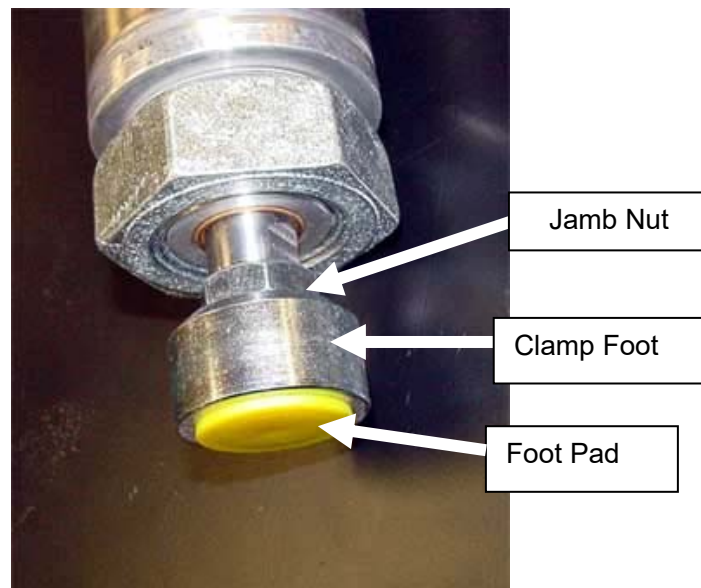

Fig 2
2. With the shaft fully extended, hold the shaft stationary with a $\frac{1}{2}$ " wrench and loosen the jamb nut with a $\frac{3}{4}$ " wrench. Continue holding the shaft stationary with the $\frac{1}{2}$ " wrench and use large slip-joint pliers to turn the Clamp Foot and break it free of thread lock compound. **See Fig 2.**